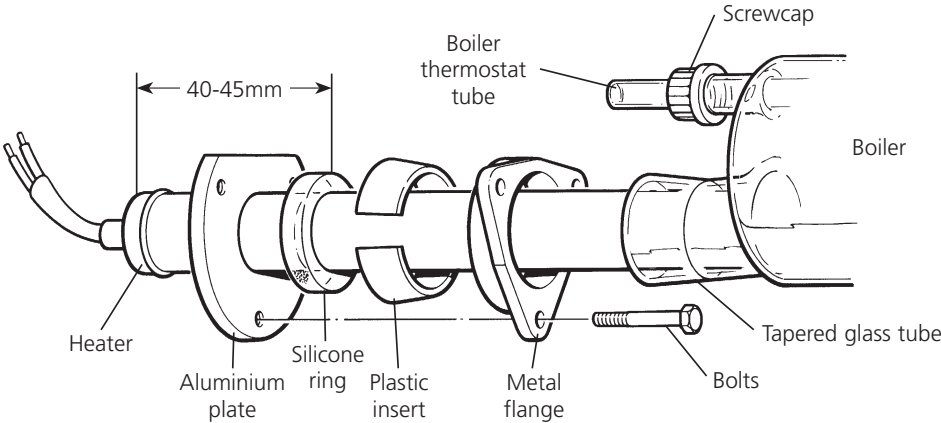

Figure 2 Heater and thermostat tube assembly
- Take the boiler, the heater and the gasket kit and assemble as shown in **figure 2**.
- Place the aluminium plate, followed by the silicone ring over the heating element and locate approximately 40-45mm from the end with the electric cable, see fig. 2.